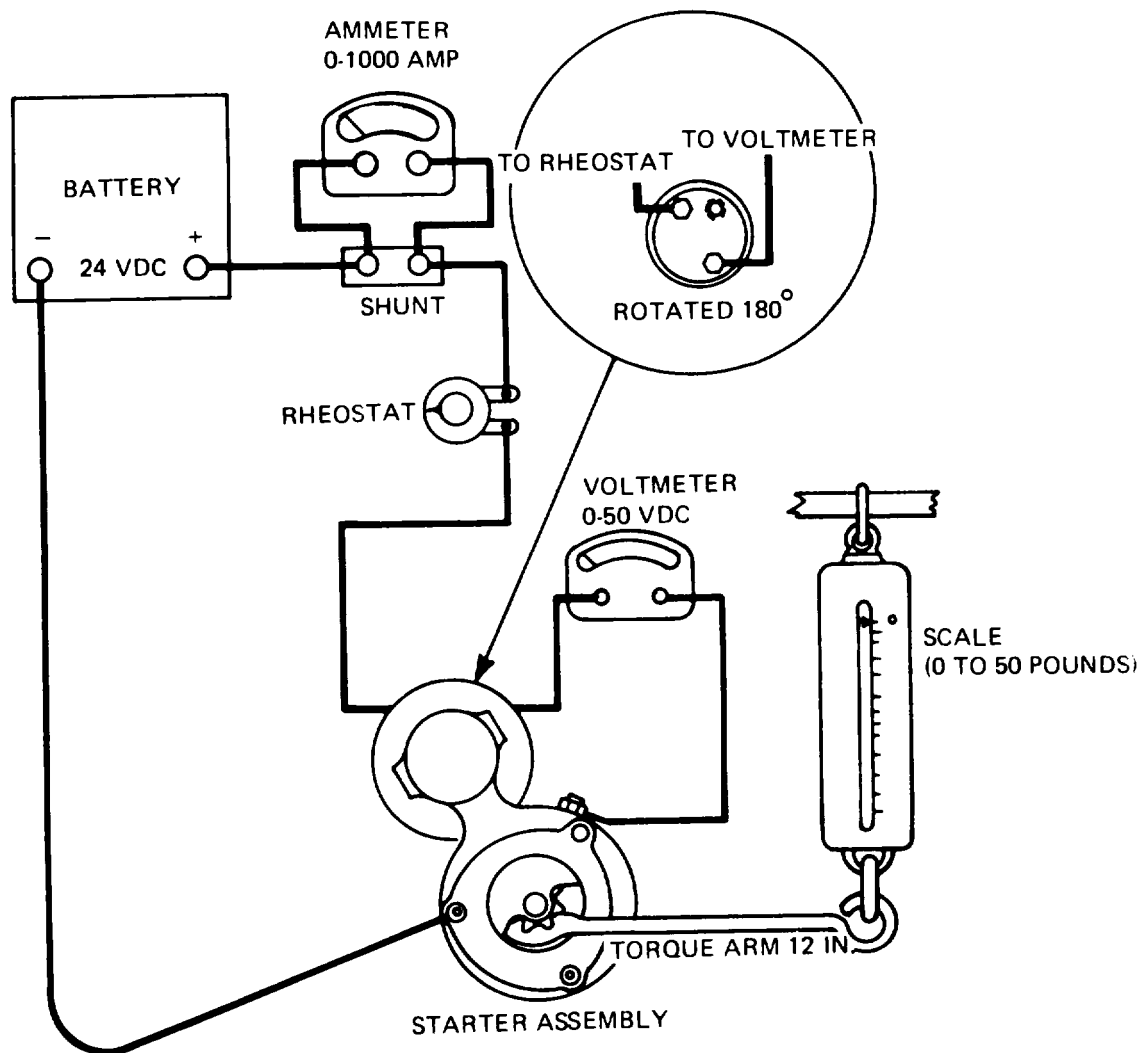

Figure 3-3. Starter Assembly Stalled Torque Setup
- (a) Install starter assembly in test setup shown in figure 3-3.